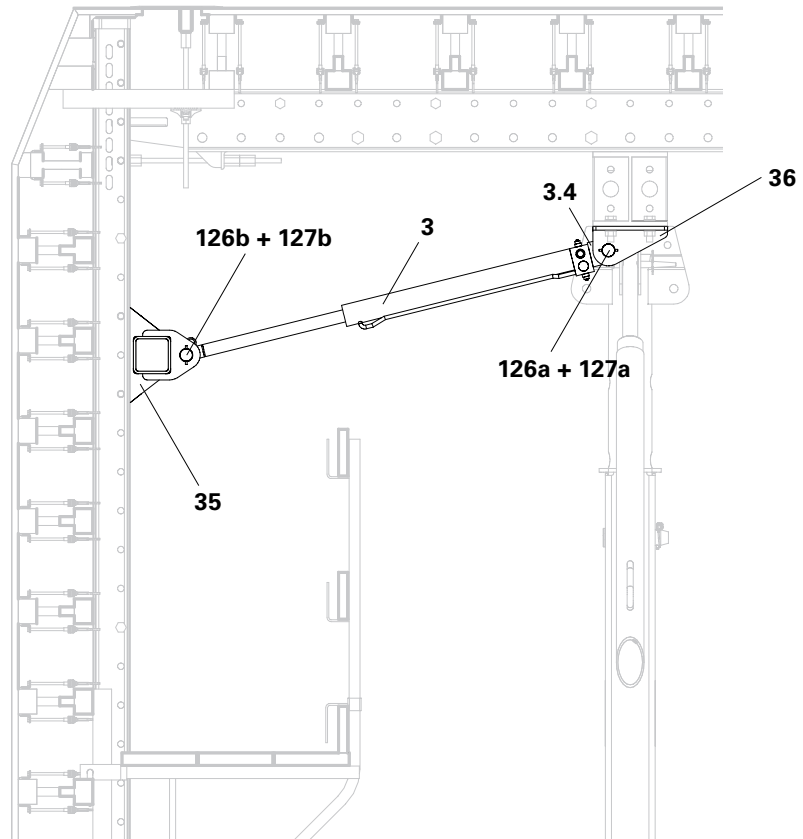

Fig. B5.07
1. Position the hydraulic cylinder (3) with the piston side on the assembly position.
2. Push piston side (3.4) into connection bracket (36).
4. Swivel the hydraulic cylinder in the distribution waler (35) and align.
- (Fig. B5.07)